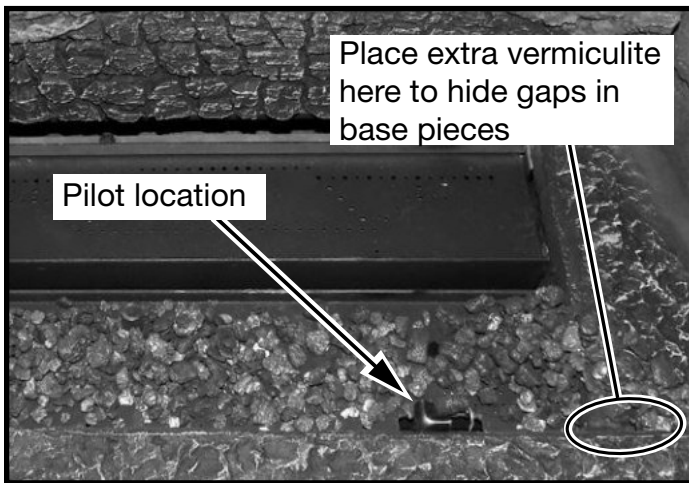
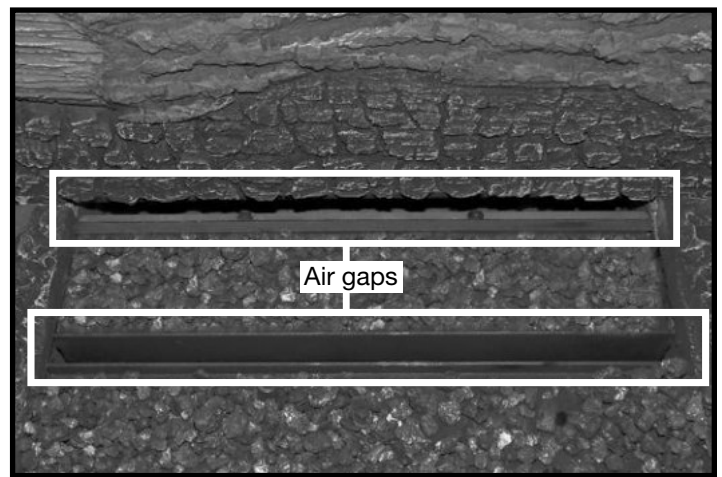

Figure 74: Vermiculite surrounding pilot.
Figure 75: Air gaps.
9. Distribute a thin layer of vermiculite (about 1/4") onto the front burner tray (Figure 74). Place extra vermiculite over the small gaps between the front base piece and the two side base pieces. Keep the vermiculite from interfering with the pilot assembly. Place a layer of vermiculite (about 1/4") onto the rear burner tray to fill it up until it is level with the side and end walls. Keep the vermiculite from falling into the air gaps between the front and rear burners and the gap between the rear burner and the air deflector which supports the first log (Figure 75).